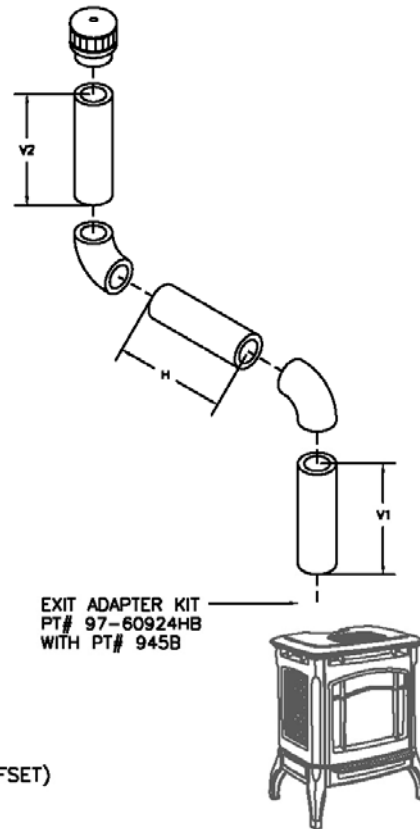

Figure 15: Vertical Terminations Using (2) 90° Elbows
*With No Elbows or (2) 45° Offsets (Figure 14), and (2) 90° Elbows (Figure 15)
- 🔥 12' maximum offset (refer to Figure 15)